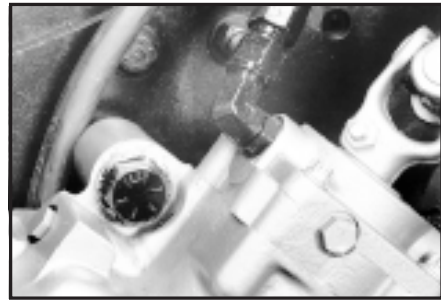

Figure 4.1
1. Look for anything between the steering gear and frame that could cause a binding problem. For example: hoses or brackets that have been routed, or are interfering between the steering gear and frame, frame flanges or spring mounting points. *Figure 4.1.* Mounting pads lower than steering gear housing, lack of clearance between frame and steering gear valve housing adapter, sector shaft adjusting screw and nut contact with access adjustment hole in frame. If interference is found, correct the problem.